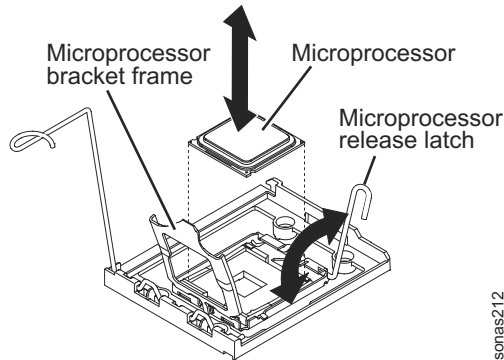

Figure 40. Microprocessor release latch
7. Release the microprocessor retention latch by pressing down on the end, moving it to the side, and releasing it to the open (up) position. See Figure 40.